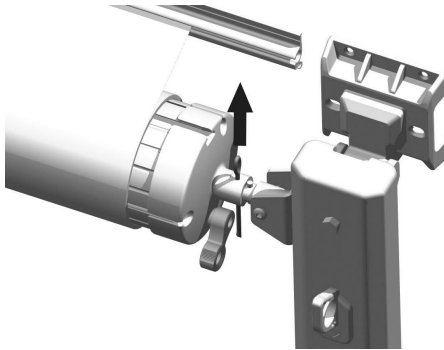

Figure C17
3.7 Remove the safety pins on both sides of the end caps of the roller (Figure C17) to tighten the fabric roll under stress.